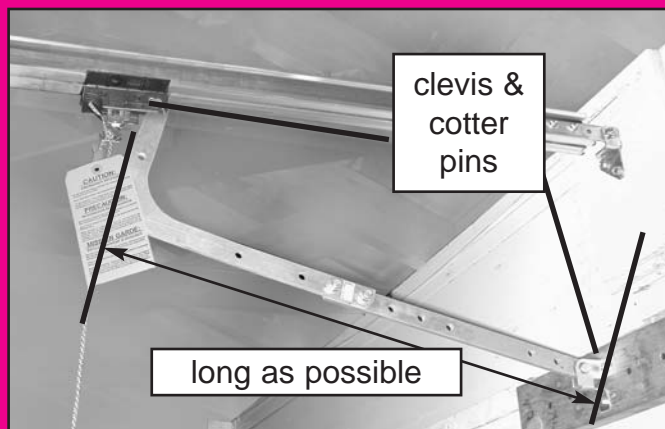

FIG. 2-12 Attaching door arms (one-piece doors).
- Straight arm to door bracket using clevis pin (24) & cotter pin (25) (**Fig. 2-12**).
- Curved arm to carriage using clevis pin (24) & cotter pin (25) (**Fig. 2-12**).
- Fasten arms together using 2 bolts (27) and nuts (28) (**Fig. 2-12**).